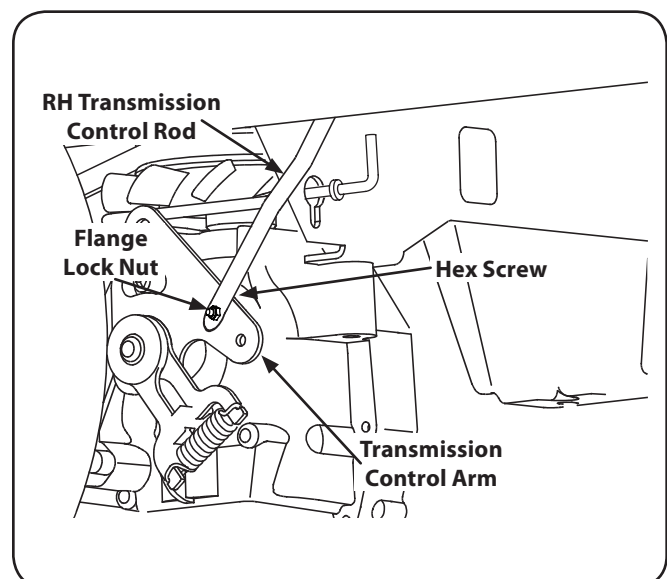

Figure 7-9
- If only one wheel is rotating, locate the transmission control rod beneath the frame at the front of the rear tire. If both wheels rotate, locate both control rods. See Fig. 7-9.